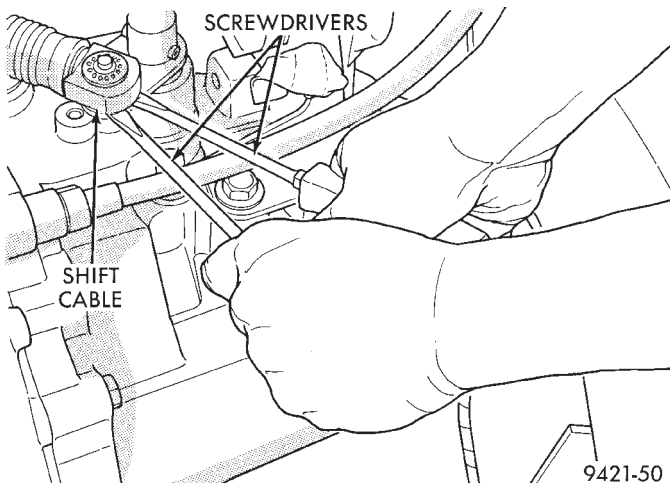

Fig. 10 Shift Cable Removal
(1) Disconnect battery negative cable at shock tower.
(2) Remove air cleaner assembly.
(3) Disconnect gear shift cable ends from transaxle shift levers (Fig. 10).